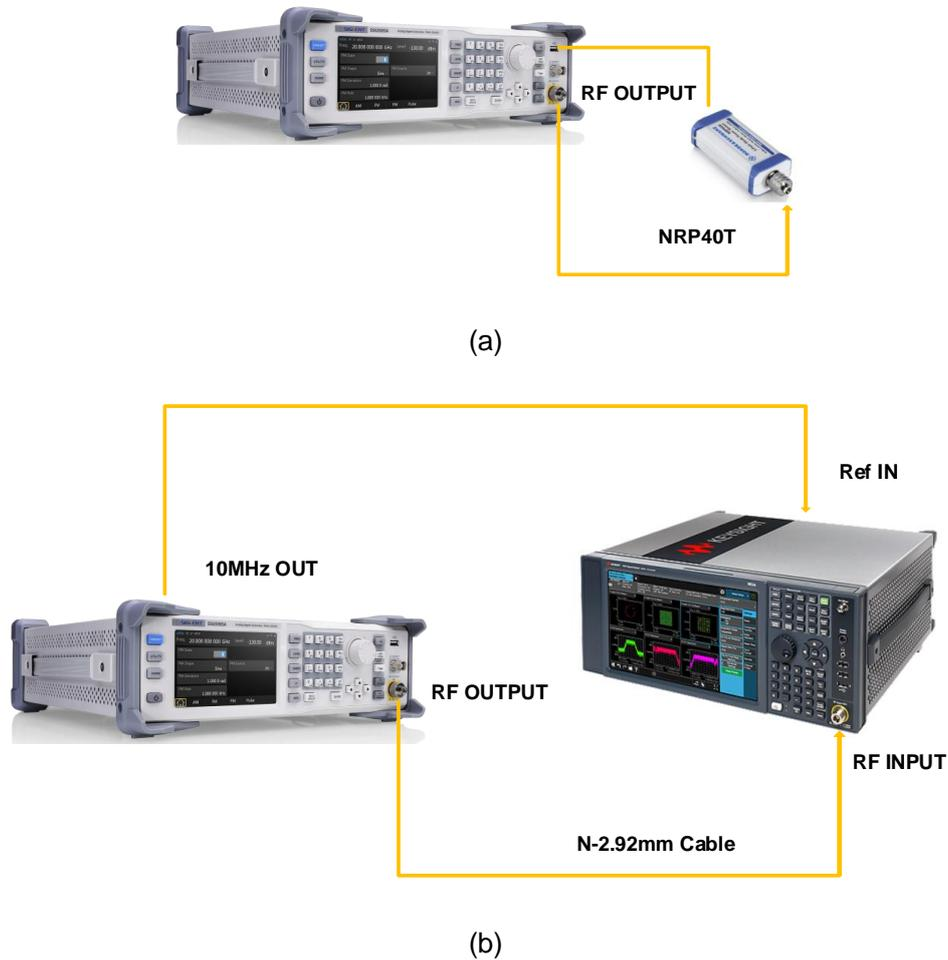

Figure 6 Absolute amplitude accuracy connections
1. Connect the RF output terminal of the SSG5000A with the power meter, as shown in Figure 6 (a).
5. Connect the [**RF OUTPUT**] terminal of the SSG5000A with the input terminal of the signal analyzer using a dual-N cable as shown in Figure 6 (b).
10. Keep the connection shown in Figure 6 (b) unchanged. Press **Mode Preset** to restore the signal analyzer to its factory setting and set the output amplitude of the SSG5000A according to Table 3.